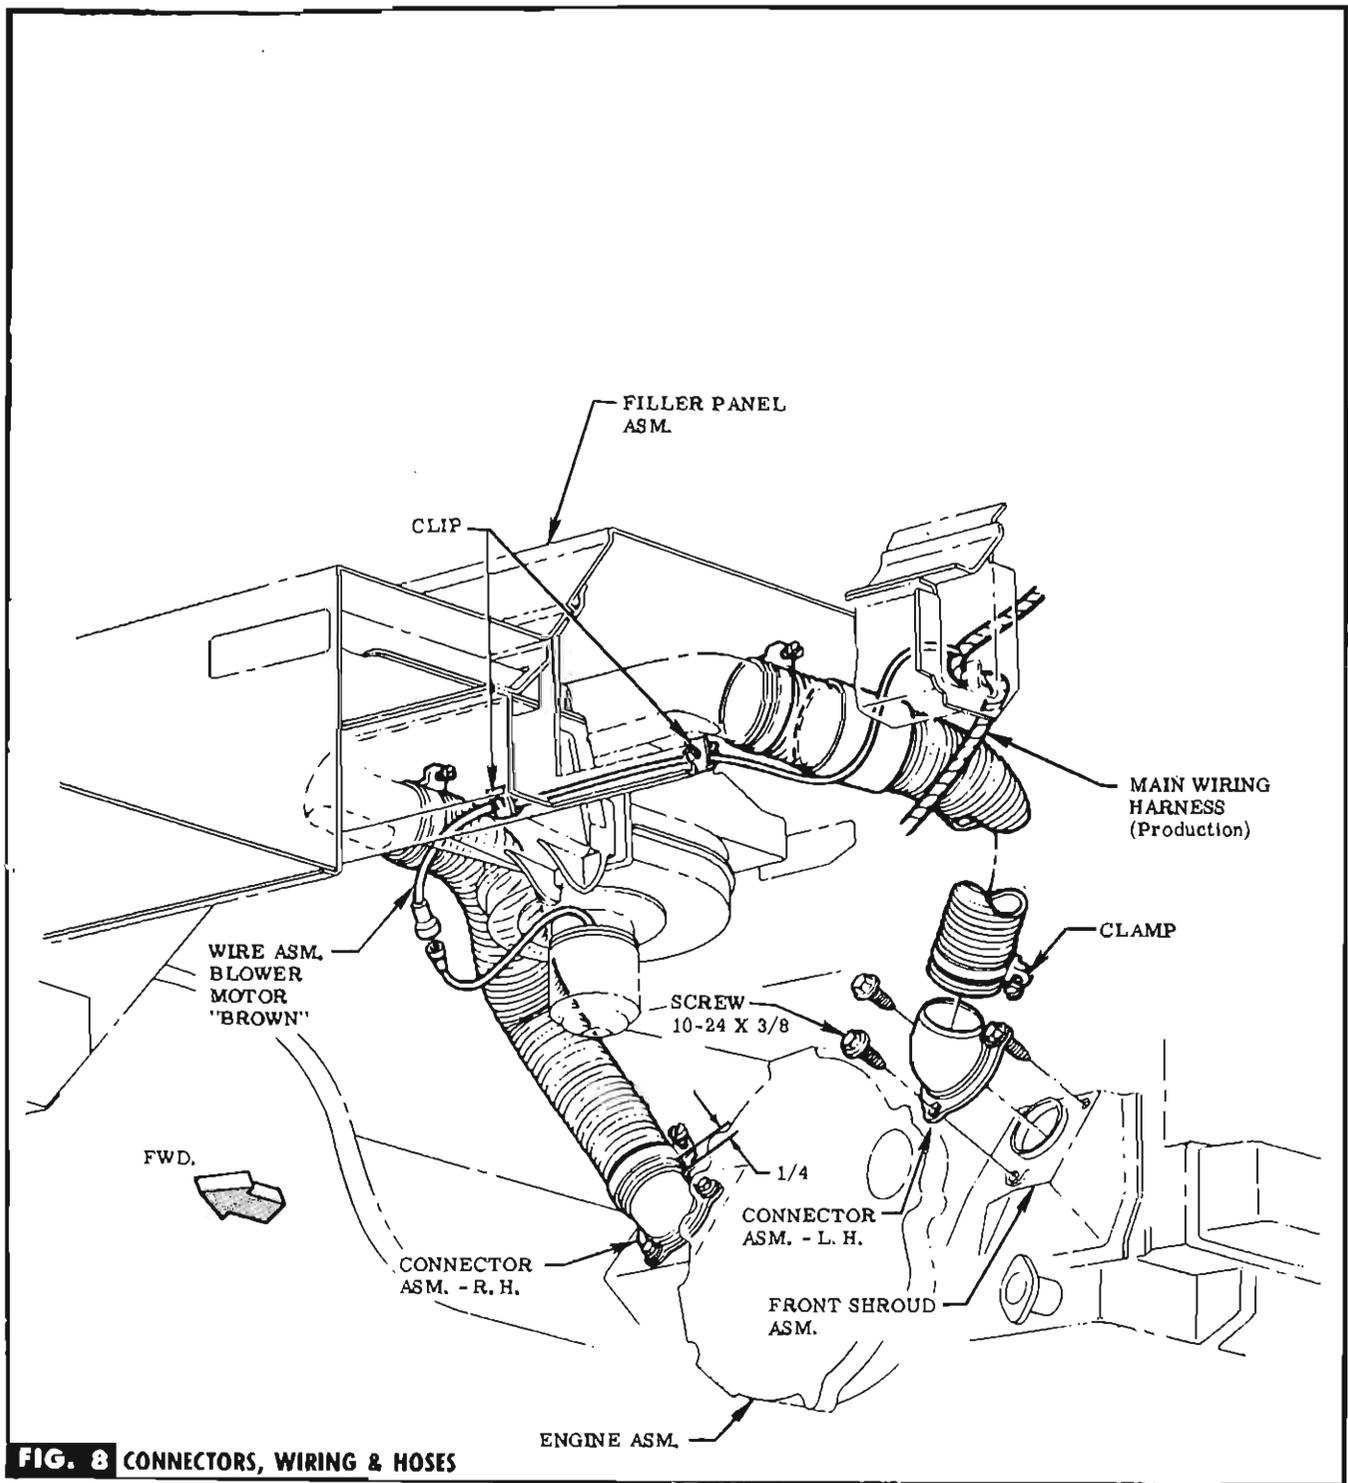

FIG. 8 CONNECTORS, WIRING & HOSES
STEP 31 INSTALL CONNECTORS TO FRONT SHROUD ASM. WITH PROVIDED SCREWS (IN BAG D). SEE FIG. 8.
STEP 32 SLIP CLAMPS (IN BAG D) ON HOSE. SLIDE HOSE ON CONNECTOR. POSITION & TIGHTEN CLAMPS. SEE FIG. 8.
STEP 33 INSTALL CLIPS TO INTERMEDIATE CROSS SILL ASM. & ROUTE BROWN WIRE THRU CLIPS & CONNECT TO BLOWER MOTOR LEAD. SEE FIG. 8.